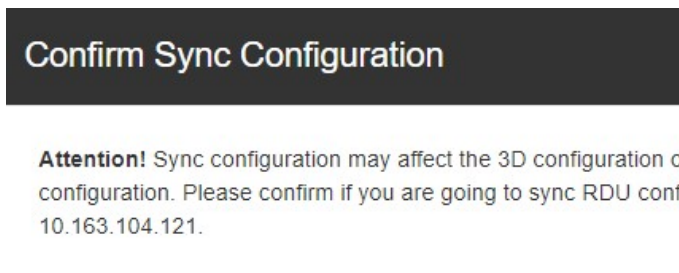

Figure 6-15 Confirm Sync Configuration dialog box
2. Because the current RDU may be associated in 3D configuration or widget, the **Confirm Sync Configuration** dialog box is displayed after you click **Sync** (as shown in Figure 6-15). You can select **CONFIRM** or **CLOSE** based on actual situations. If you select **CLOSE**, the system does not synchronize the RDU configuration. If you select **CONFIRM**, the system starts to synchronize the RDU configuration.